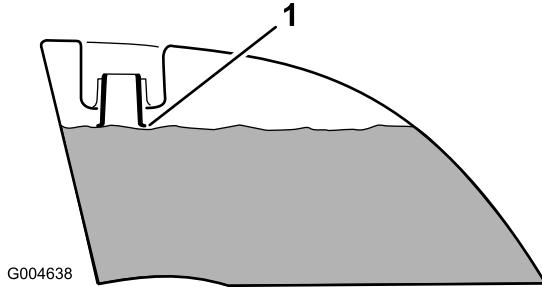

Figure 10
4. Add fuel to both fuel tanks, until the level is even with the bottom of the filler neck (Figure 10). **Do not overfill the fuel tanks.**